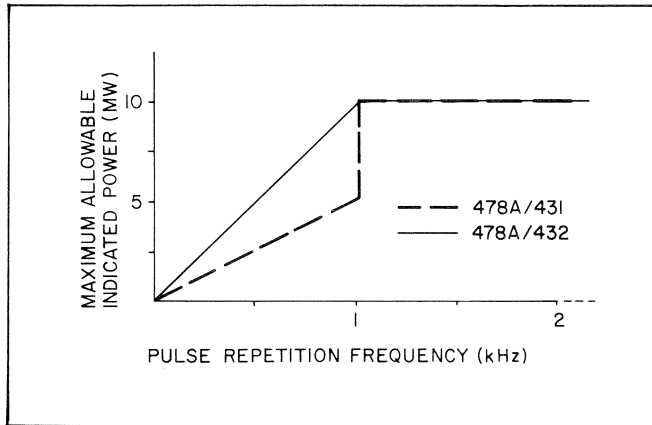

Figure 1. Maximum Power Meter Reading vs PRF for Pulses Shorter than 250  $\mu$ s
15. **PULSE ENERGY AND PEAK POWER FOR 478A/432 COMBINATION.** For pulses shorter than 250  $\mu$ s, energy per pulse must not exceed 10 W- $\mu$ s and peak power should never exceed 200 watts. (For example, a 40 mW, 250  $\mu$ s pulse contains 10 W- $\mu$ s of energy.) Pulses longer than 250  $\mu$ s are allowed to contain more energy but peak power must not exceed 200W. Figures 1 and 2 interpret these limits in graphical form. (For lack of space, the mount nameplate lists only a 5 W- $\mu$ s
16. PULSE ENERGY AND PEAK POWER FOR 478A/431 COMBINATION. The limitations of this combination are basically the same as the 478A/432 with the exception that at pulse repetition rates less than 1 kHz, energy per pulse must not exceed 5 W- $\mu$ s and peak power must not exceed 10 mW. These limits are also interpreted in Figures 1 and 2.